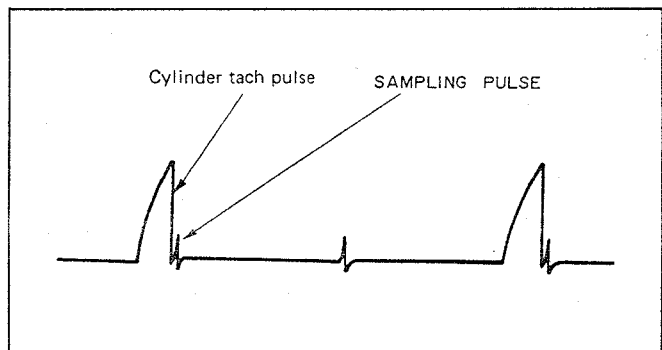

Fig. 4-104 Cylinder Motor Speed
5. Remove the jumper between TP601 and TP901 and confirm the sampling pulse is locked in on the trailing edge of the cylinder tach pulse. (See Fig. 4-104)